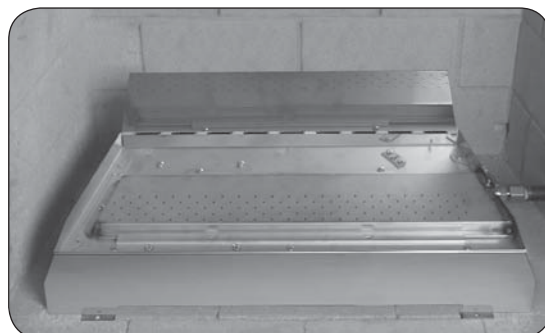

Fig. 8-4 Front cover installed
7. Remove the protective coating off of the reflective rear panel and front cover. **DO NOT** use a sharp object to remove coating. Install the front cover onto the front of the burner system (see Fig. 8-4).